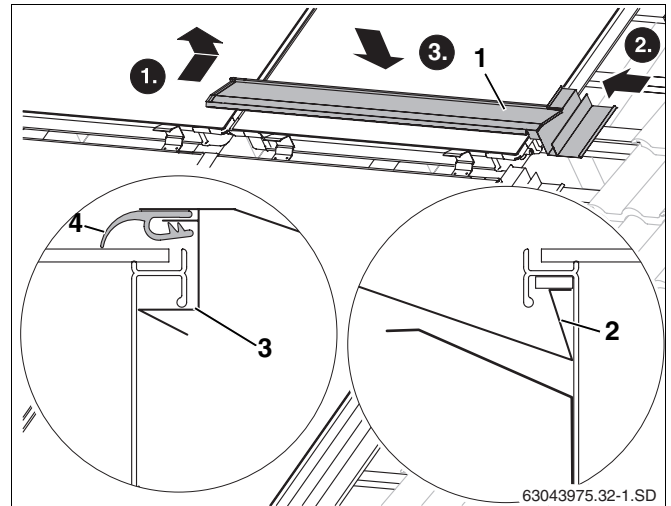

Fig. 50 Inserting first middle facing panel
- ▶ Insert the upward fold on the facing panel (Fig. 50, **Item 2**) into the recessed grip on the collector frame.
- ▶ Feed facing panel (Fig. 50, **Item 1**) towards the collector and into the side facing panel on the right.
- ▶ By applying pressure to the top of the facing panel, it clicks under the recessed channel on the collector frame (Fig. 50, **Item 3**).
- ▶ Place the rubber lip (Fig. 50, **Item 4**) on top of the collector.